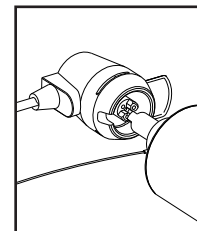
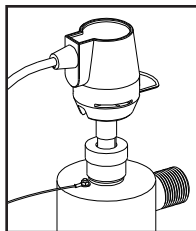

FIGURE 2B
FIGURE 2D
3. To install a new lamp, first remove the lamp from its protective packaging, again being careful not to touch the lamp glass itself. Carefully insert the lamp into the reactor vessel (actually inside the quartz sleeve) (Figure 2C). Insert the lamp fully into the chamber leaving about two inches of the lamp protruding from the chamber. Next, attach the connector to the UV lamp (Figure 2B). The connector is "keyed" and will only allow correct installation in one position. Ensure the connector is fully seated onto the UV lamp (Figure 2D).
- Once the lamp is fully seated on the connector, slide the connector over the aluminum retaining nut. Make sure the metal retaining ring on the connector is pulled away from the body of the connector in order that the connector may slide fully over the retaining nut. Once the connector is located fully over the retaining nut, slide the metal ring back in to lock the connector in place (Figure 2E). As this connector is keyed to the reactor chamber, make sure the notch on the connector (Figure 2D) is located over the ground lug located on the reactor chamber.